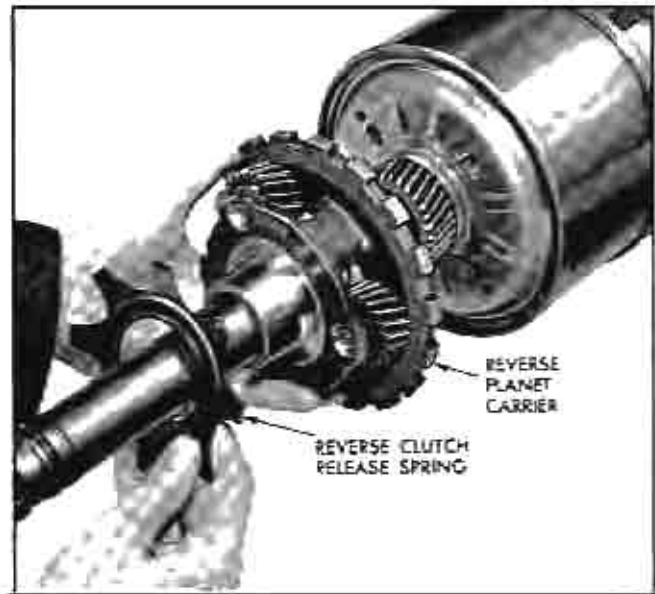

Fig. 62 Removing Reverse Planet Carrier
12. Remove reverse clutch release spring (circular with 8 tangs) from output shaft (Fig. 62).